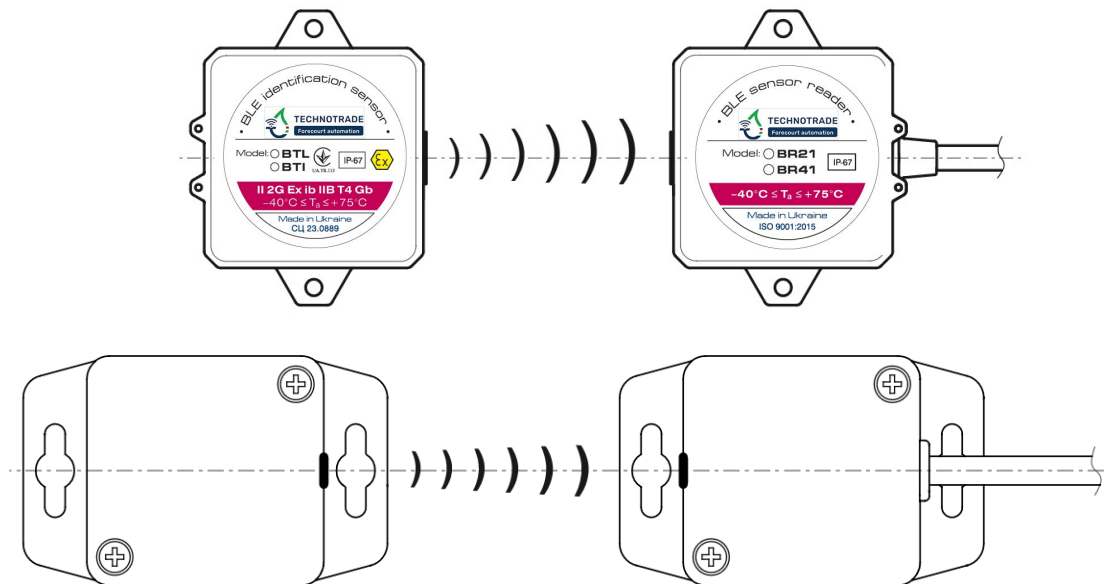

Figure 4.1 – Optimal mutual orientation of the Reader and Sensor
* The maximum limit reading range is determined in the direct line of sight of the Reader and Sensor, in free space and with such mutual orientation of the Reader and Sensor, at which the maximum signal level is observed (see Fig. 4.1). The required limit reading range is set software, by default it is set to 8 m (software version 1.xx) or 25.5 m (software version 2.xx, 3.xx, 4.xx, see Table 3.1)
The Reader should be installed as close as possible to the Sensor, within direct line of sight at a distance of no more than 20 m. The Reader has the ability to calculate the distance to the Sensor based on the signal level. This distance is indicative, since the Sensor signal level depends on the installation locations of both the Sensor and the Reader, the presence of nearby sources of electromagnetic radiation and metal structures, as well as the mutual orientation of the Sensor and the Reader. The maximum Sensor signal level is observed when the marks (markers of the maximum of the directional pattern) on the Sensor and Reader housings are directed towards each other (see Fig. 4.1).
Typically, the Reader is mounted on the object being monitored, and the Sensors are mounted on the monitored surfaces in such a way that the maximum directional pattern markers (dot or square protrusion) on the device housings are directed towards each other, as shown in Fig. 4.1:
The distance to the Sensors determined by the Reader is indicative, since the Sensor signal level depends on the installation locations of both the Sensor and the Reader, the presence of nearby sources of electromagnetic radiation and metal structures, as well as the mutual orientation of the Sensor and the Reader. The maximum Sensor signal level is observed when the marks (markers of the maximum of the directional pattern) on the Sensor and Reader housings are directed towards each other (Fig. 4.1
- Place the Sensor and Reader at the installation site (for example, vehicle (Vehicle)) in such a way that during interaction they are as close as possible to each other, within direct visibility at a distance of no more than 20 m. The Sensor and Reader must be oriented in such a way that the maximum markers of the directional pattern on their housings are directed towards each other (Fig. 4.1);